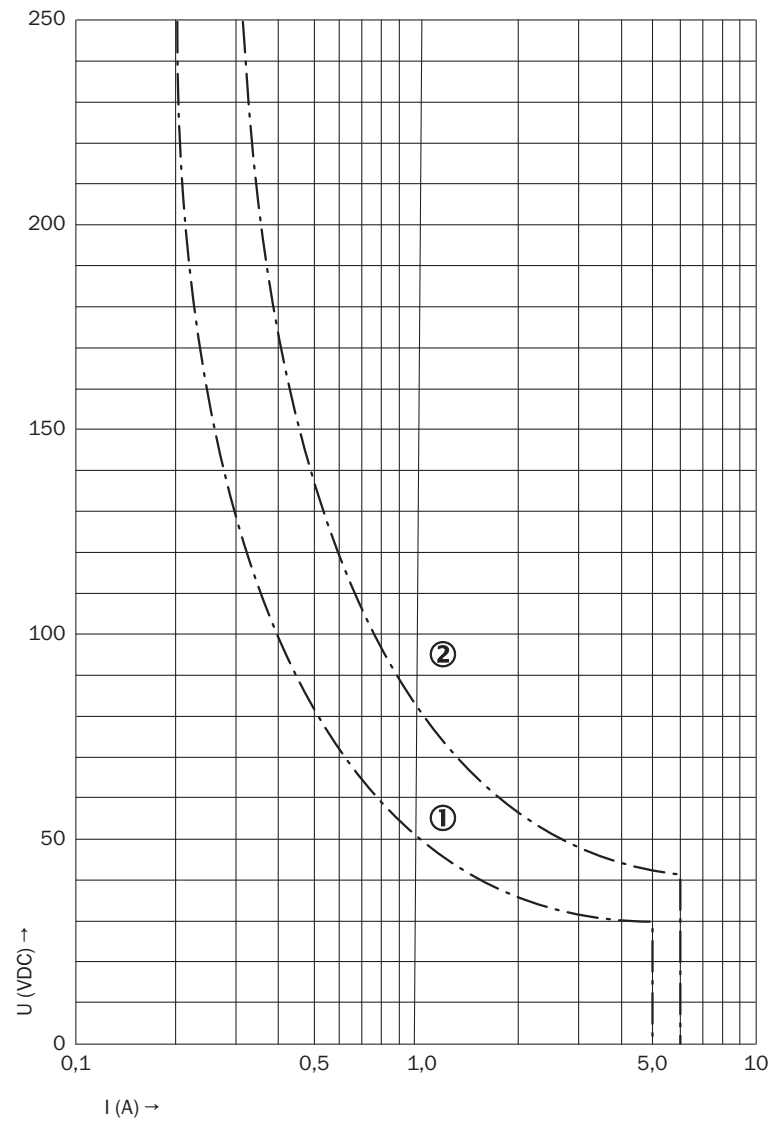
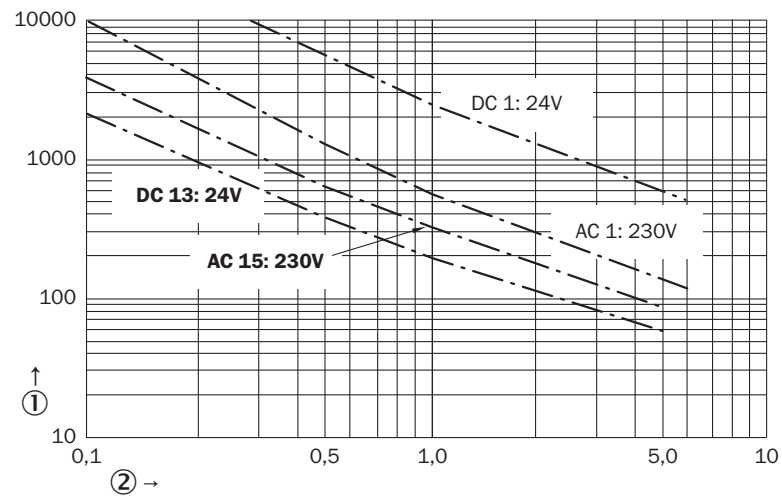

Figure 10: Switch-off delay without continuous arcing
Figure 11: Electrical service life
2) If service life curve is adhered to, see figure 11, page 27.
Switching current	10 mA ... 6 A, see figure 10, page 26, see figure 11, page 27
DC switching capacity	0.1 W ... 200 W, see figure 10, page 26